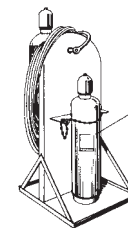

Figure 41-14: Use a Cradle or Platform to Hoist Cylinders
- Do not use slings or magnets for hoisting cylinders. Use a suitable cradle or platform (Figure 41-14).